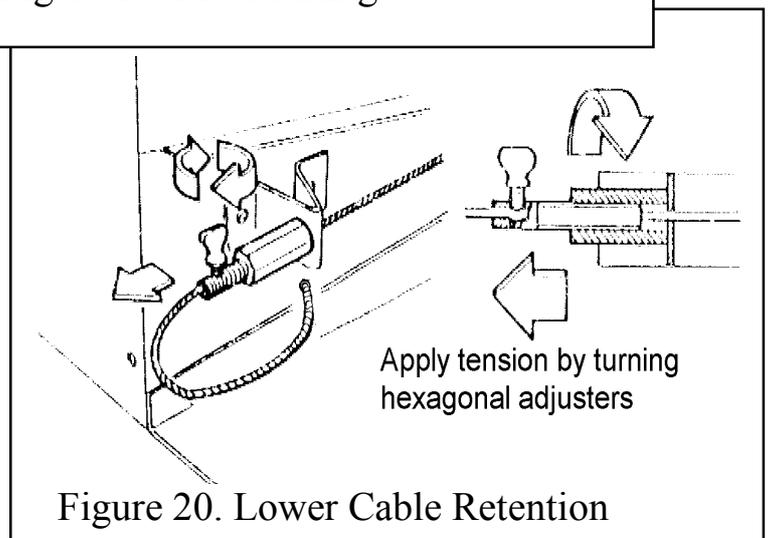

Figure 20. Lower Cable Retention
11. Pull each cable taut. Push the cable retainers hard up against the “V” brackets. Tighten the screws in the retainers so that they clamp the cables in position. Apply tension to the cables by turning the hexagonal adjusters by hand. See figure 20.